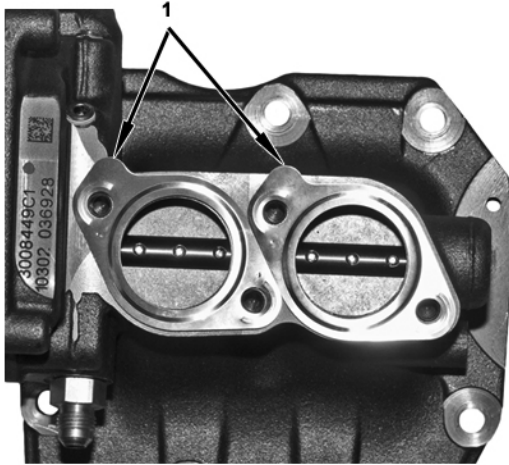

Figure 29 EGR Inlet Tube Gaskets
CAUTION – To prevent engine damage, ensure EGR inlet tube gaskets have the tab (1) at the top so gaskets do not overlap (Figure 29).